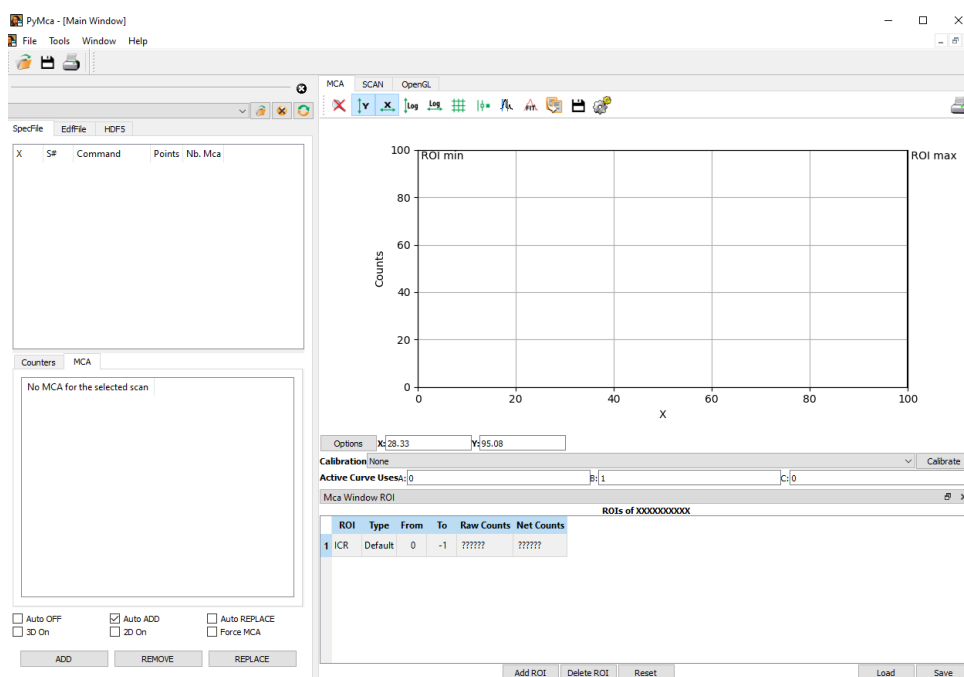

Figure 1-1: The PyMCA window should look like this.
- 1) PyMCA is a program commonly used to process x-ray spectroscopy data that is found at many beamlines around the world, including here at CHESS. We'll be using PyMCA to process all of the data in this tutorial, so go ahead and open it up. It may take a few seconds, especially if this is your first time using the program, but when it does you should see a window like Figure 1-1.